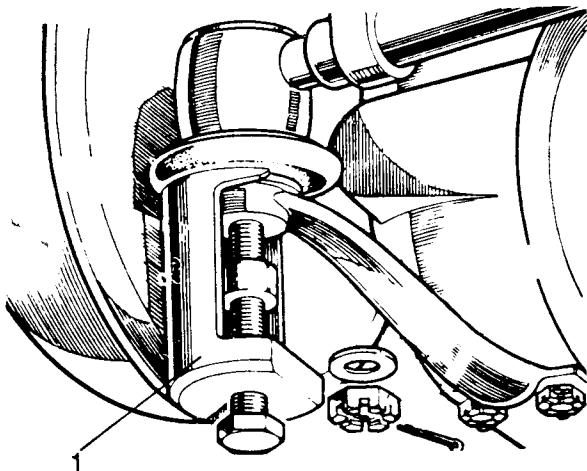

Fig J2.11
- (7) Refer to Fig J2.11. Disconnect the steering track rod and drag link. Use special tool 601763 (1) to extract the ball joints.